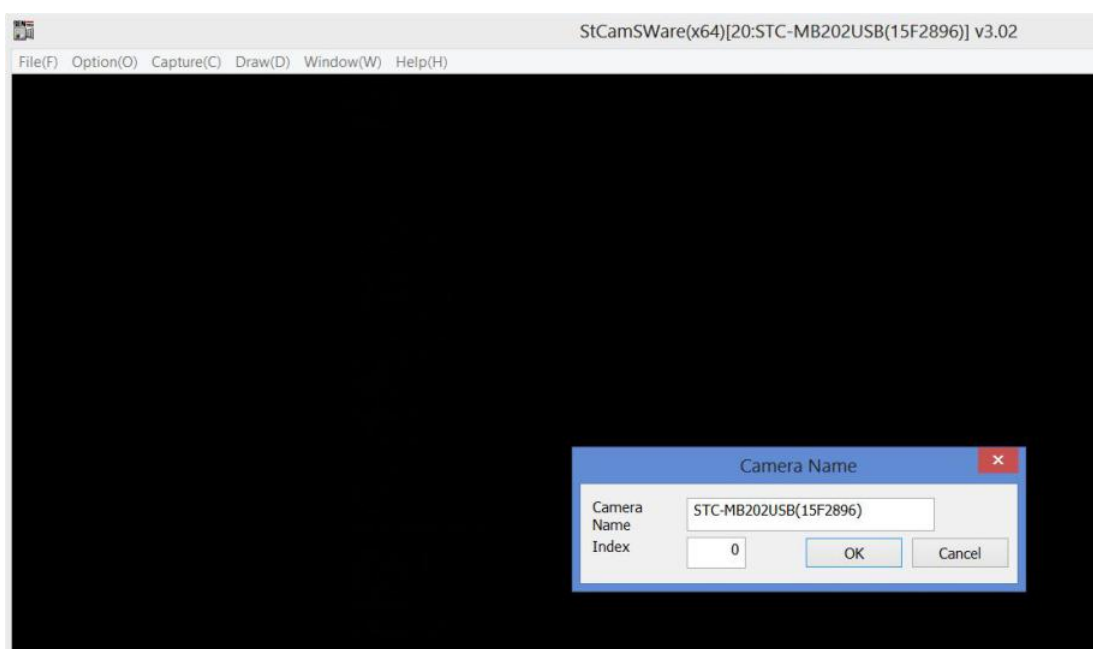

Figure 30 Camera Name Dialog Box
28. Camera Name Dialog box would be illustrated as below Figure 30.